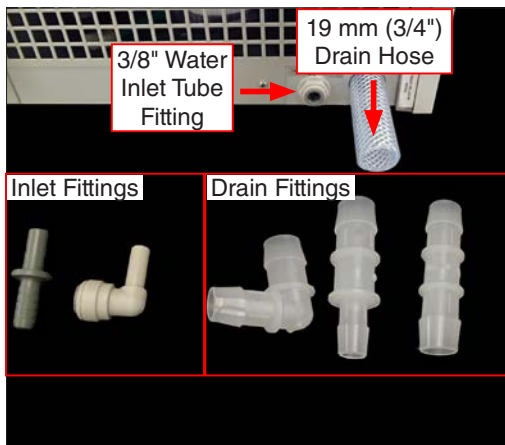

Figure 6.3c: Hose barsbs and elbows supplied with models requiring supply and drain connections.
- Water supply and drain connections are made at the lower rear of the tester (Figure 6.3c).